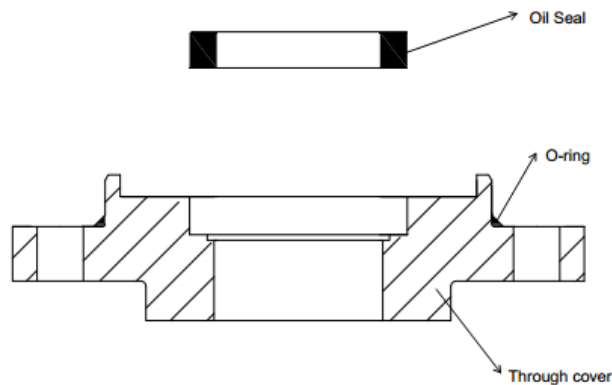

Figure 51 Worm Shaft Through Cover O-ring and seal replacement
- Remove the old seal then apply some 3# General purpose lithium lubricating grease into the new seal (NOK TC $\Phi 60 \times \Phi 80 \times 12$), install it into the through cover. See Figure 51.